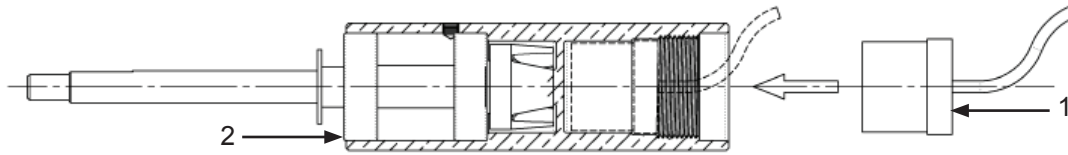

Figure 9 Sensor Insertion
Step 4. Set the sensor (1) into the back of the bearing housing (2). Be sure the sensor is fully seated into the bearing housing before re-installing the bearing assembly onto the ell. See Figure 9.